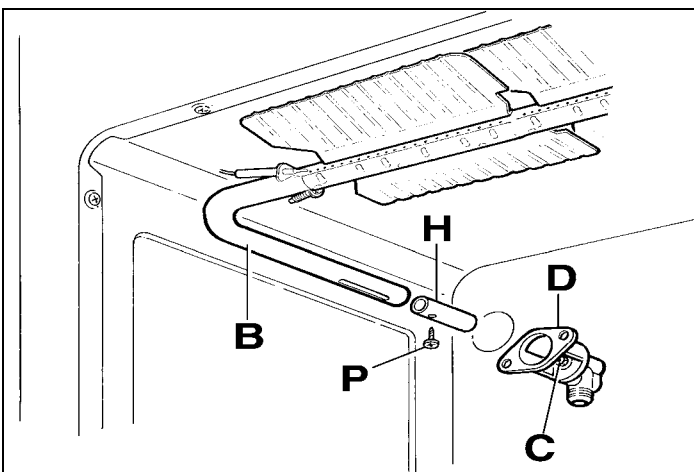

Fig. 12
- 1) Loosen the screw and pull out the burner from the support being careful not to damage the ignition plug and the thermocouple (Fig. 12).
- 2) Unscrew the nozzle C (Fig. 12) using a 7 mm spanner and replace it with the nozzle needed for the new type of gas according to what is indicated in TABLE shown below.